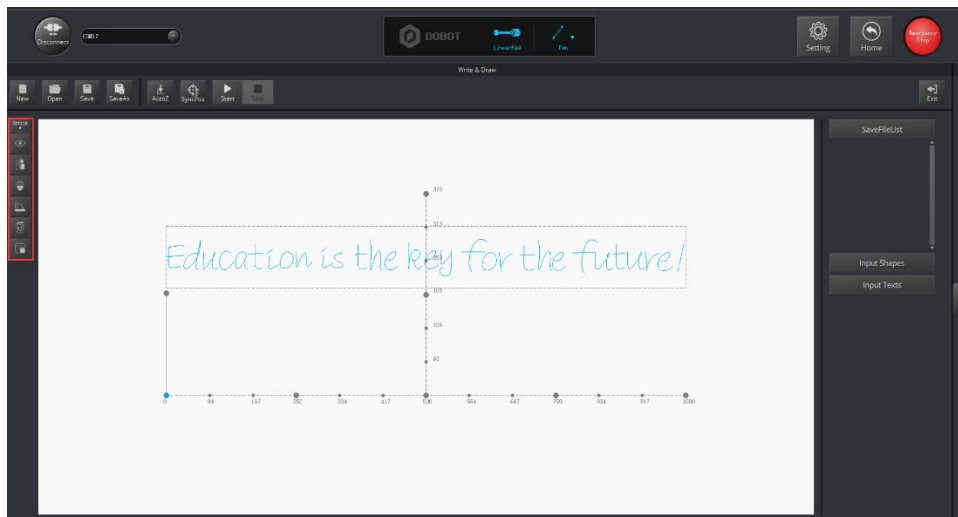

Figure 1.16 Operation Panel
Step 6 Click options on the left side of the **Write&Draw** page to adjust position and size of characters. As shown in Figure 1.16.